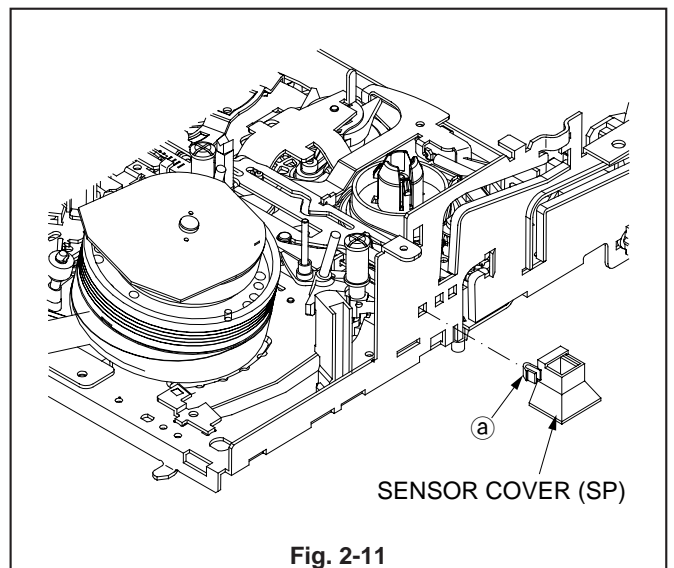

Fig. 2-11
1. Remove the catch (a) of the SENSOR COVER (SP) shown in Fig. 2-11 to remove the SENSOR COVER (SP).
1. Install the SENSOR COVER (SP) shown in Fig. 2-11.